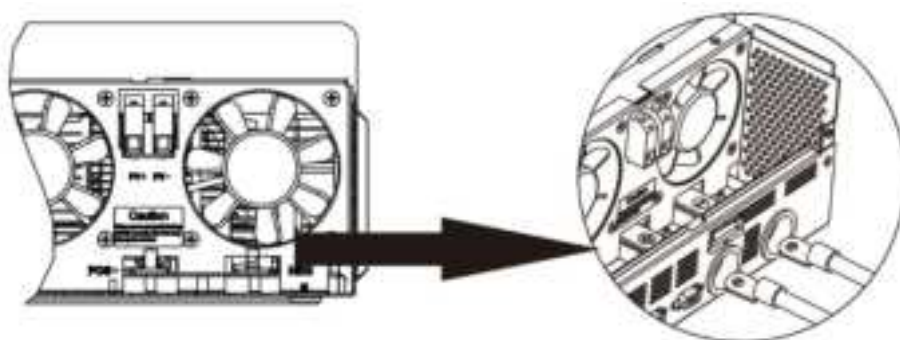

Fig. 6: Battery connection
2. Remove the pre-installed nuts from the battery terminal bolts. Insert the ring terminal of the battery cables through the casing holes (cable glands for 120 Vac models) and flat onto the corresponding battery terminal (**Fig. 6**). Screw down the previously removed nuts with a torque of 2 ~ 3 Nm (1.5 ~ 2.2 lbf·ft). Ensure the ring terminals sit flush on the connectors.